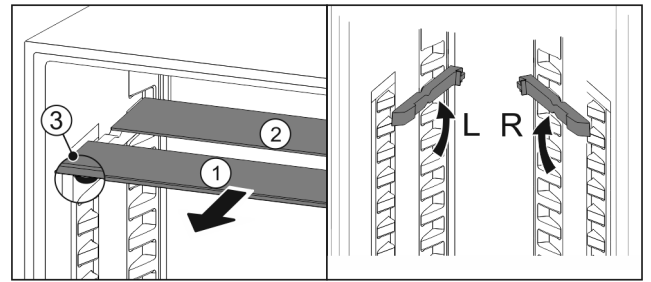

Fig. 74
- ▶ Pull the glass panels out Fig. 74 (1) from the front, one at a time.
- ▶ The glass panel Fig. 74 (1) and trim strip are at the front.
- ▶ The stops Fig. 74 (3) point down.